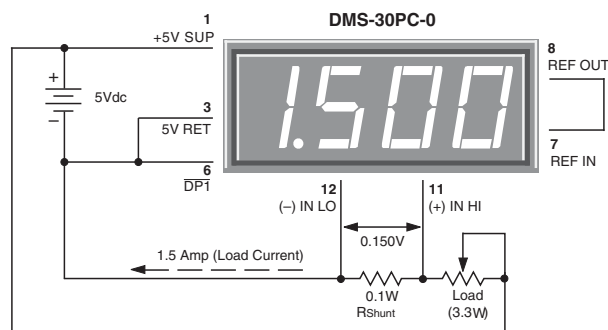

Figure 9. Basic DC Ammeter Circuit
7. Digital Ammeter: Digital ammeters are finding ever-increasing usage because analog-style ammeters (moving-vane types) now cost roughly the same as their digital counterparts. Additionally, analog ammeters are not nearly as rugged as modern digital panel voltmeters. Figure 9 illustrates a typical ammeter application. The circuit uses a $\pm 200\text{mV}$ input meter